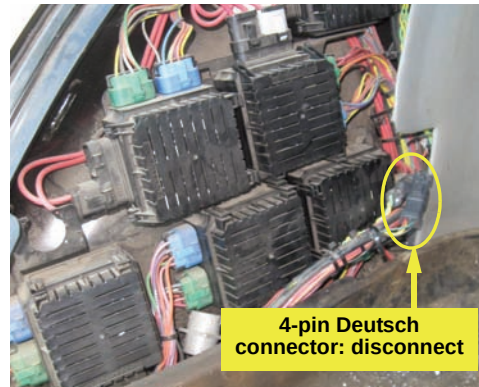

Figure 2c-i: Location of 4-pin connector
- c. Locate the 4-pin Deutsch wire connector towards the lower right side of the opened area. Carefully disconnect the wire connector and connect the male and female ends of the CAN steering interface cable **EB** to the corresponding male and female connections (Figures 2c-i and 2c-ii).